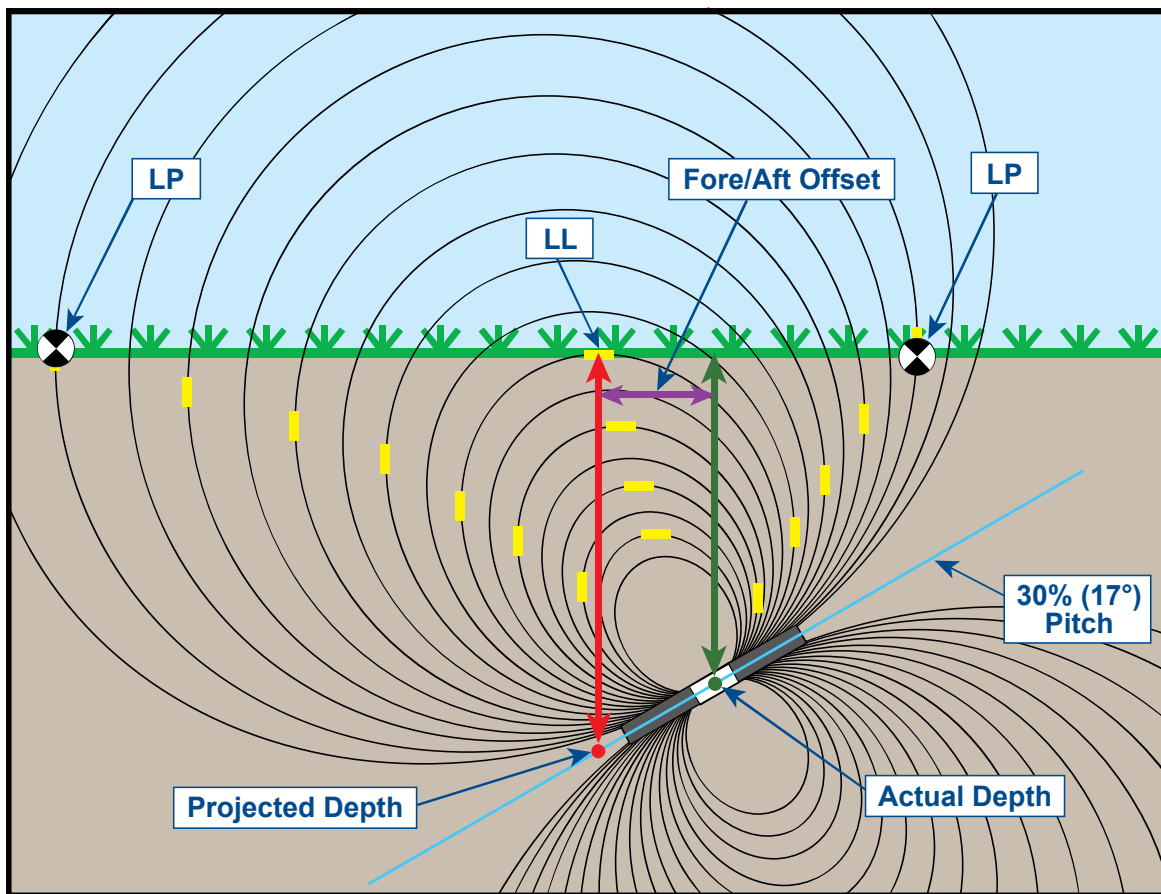

Figure B2. Projected Depth vs. Actual Depth and Fore/Aft Offset When Steep and Deep
The projected depth and fore/aft offset, shown in Figure B2, must be accounted for when the transmitter is steep and/or deep. See the tables provided later in this appendix (Tables B1 and B2) to determine the actual depth and fore/aft offset when you know the displayed (projected) depth and pitch of the transmitter.
Figure B2 above shows a transmitter positioned in a drill string that is meant to illustrate drilling at either a positive or a negative pitch—the pitch is positive if you are drilling left to right, and it is negative if you are drilling right to left. The transmitter's signal field is also pitched at the same angle as the transmitter. The locate line (LL), which is where the depth measurement is taken, is the horizontal component of the transmitter's signal field flux lines. That is, the LL is found where the flux lines are horizontal, as illustrated with short horizontal yellow lines in the figure above.
The locate points (FLP and RLP) are also shown in Figure B2. These points are located at the vertical components of the signal field, as illustrated with short vertical yellow lines in the figure above. Note that the locate points are not the same distance from the LL when the transmitter is pitched. Again, this situation requires compensation for the projected depth and the fore/aft offset.